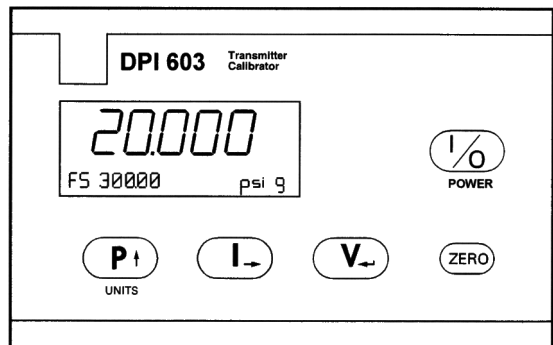

Figure 3.1 - DPI 603 Keypad
3.2 Operator Controls (Figure 3.1)
The operator controls for this instrument comprise five keys which are located on a membrane keypad as shown on Figure 3.1.